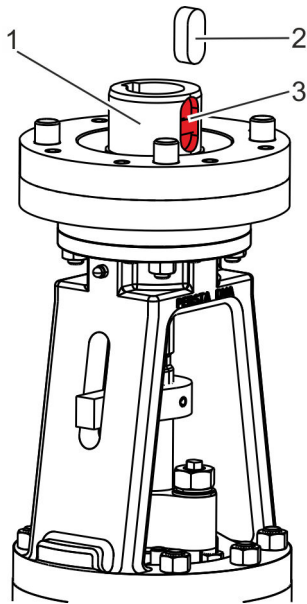

Fig. 27: Inserting the feather key
6. ➤ Insert the feather key (Fig. 27/2) into the feather key groove (Fig. 27/3) on the hub (Fig. 27/1).